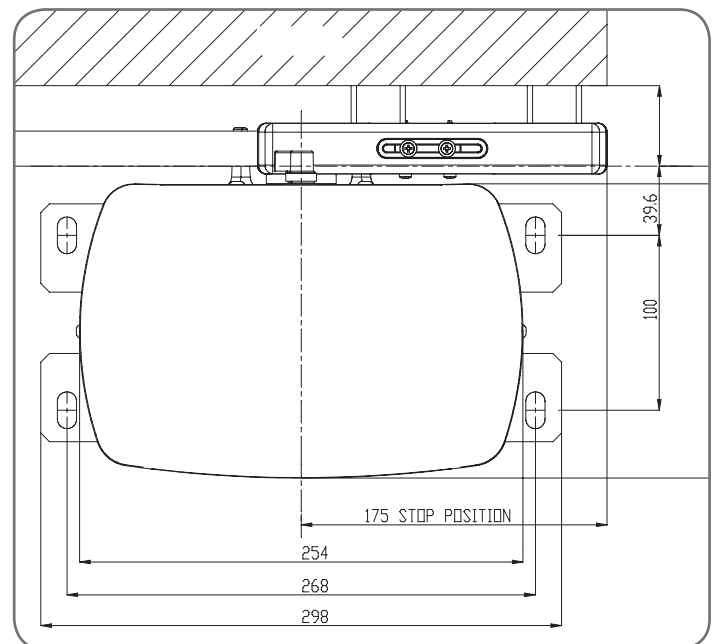
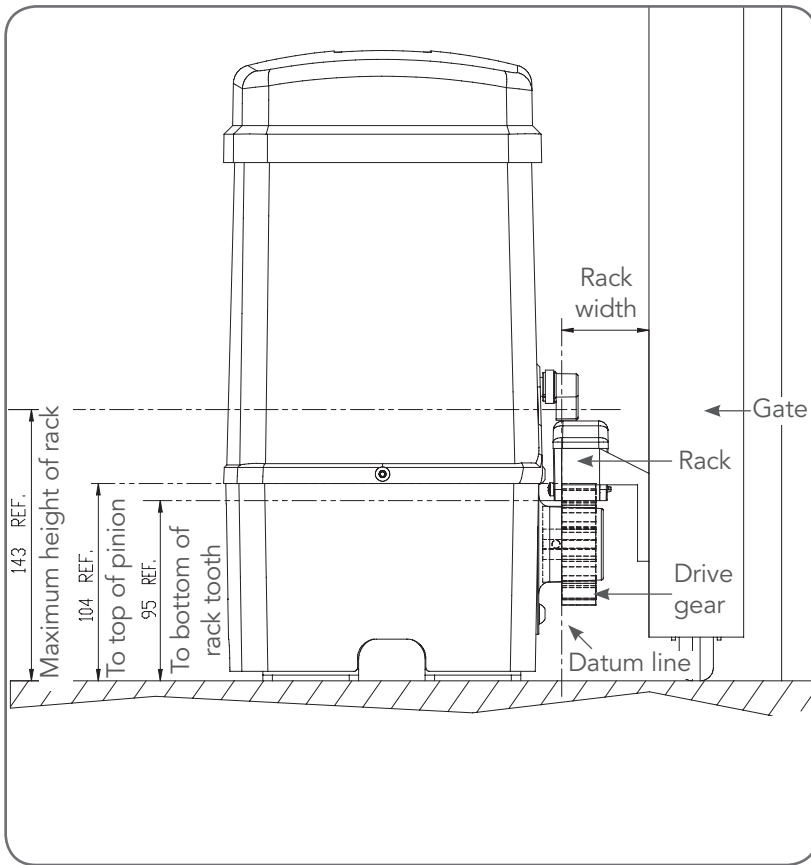

Fig 4.2
Fig 5.1
- Prior to mounting the NeoSlider™, determine the distance from the gate to the outer edge of the rack (i.e. the rack width) and to the datum line (see Fig. 4.2 and Fig. 5.1). If using an Automatic Technology plastic rack, the width is 40mm. If using a different brand of rack, please ensure it is Module 4 and then confirm the width, as this will vary.
- Mark a line parallel to the face of the gate for the mounting holes. The distance from the gate is determined by the formula (38mm + Rack Width). Therefore, if using an Automatic Technology rack, the distance is 78mm. Otherwise, if using a non-Automatic Technology rack, add your rack width (and spacers if required) to the 38mm (see Fig. 4.2).
- Another 100mm back, mark another line parallel to that described in point 2 for fixing. (see Fig. 4.2).
- Then mark another line 268mm parallel to this line (see Fig. 4.2).